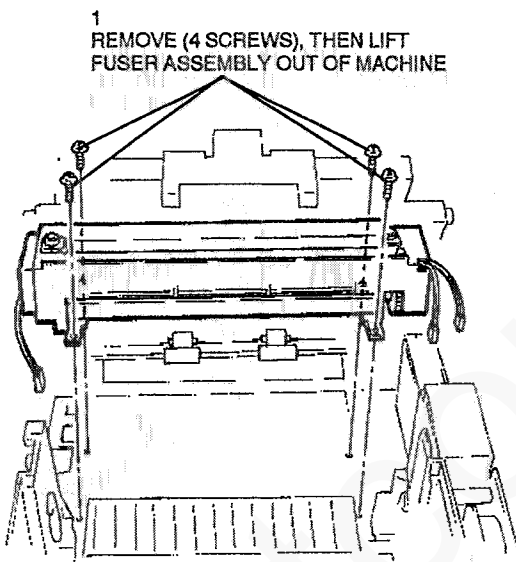

Figure 1. Fuser assembly removal
7. (Figure 1) Remove the fuser assembly.